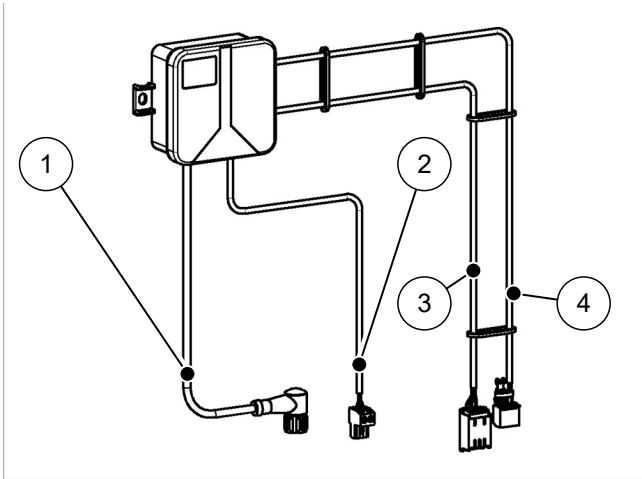

Fig. 7: Volume flow sensor connection box
1. Extend cable 1 (3, see → fig. 7) to the heating pump and connect it there.
2. Extend cable 2 (4, see → fig. 7) to the Modbus junction box.